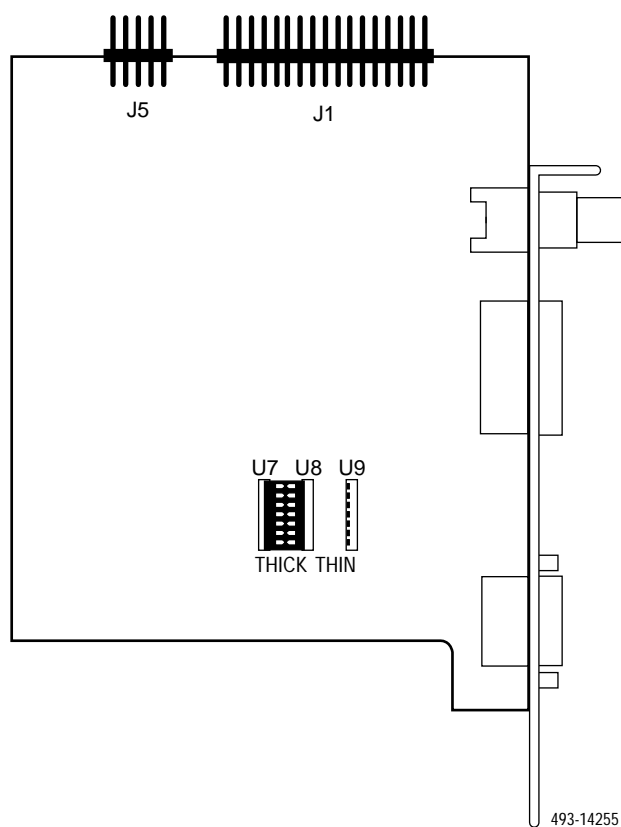

Figure 2-3. Integral Ethernet Card
1. Check the jumper settings on the Ethernet card. Confirm that the 7-pin dip jumper is set between U7 and U8 to set the card for Thick net transmission (see Figure 2-3).
- b. Check the jumpers at U7 & U8 (See Figure 2-3) to be sure that the card is configured for THICK NET.